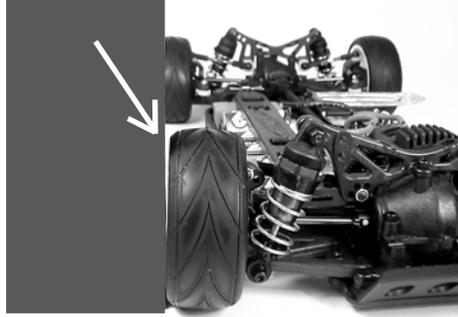

Fig. 1
2. Take your 3x5 card and push it against the tire as shown in fig. 1.